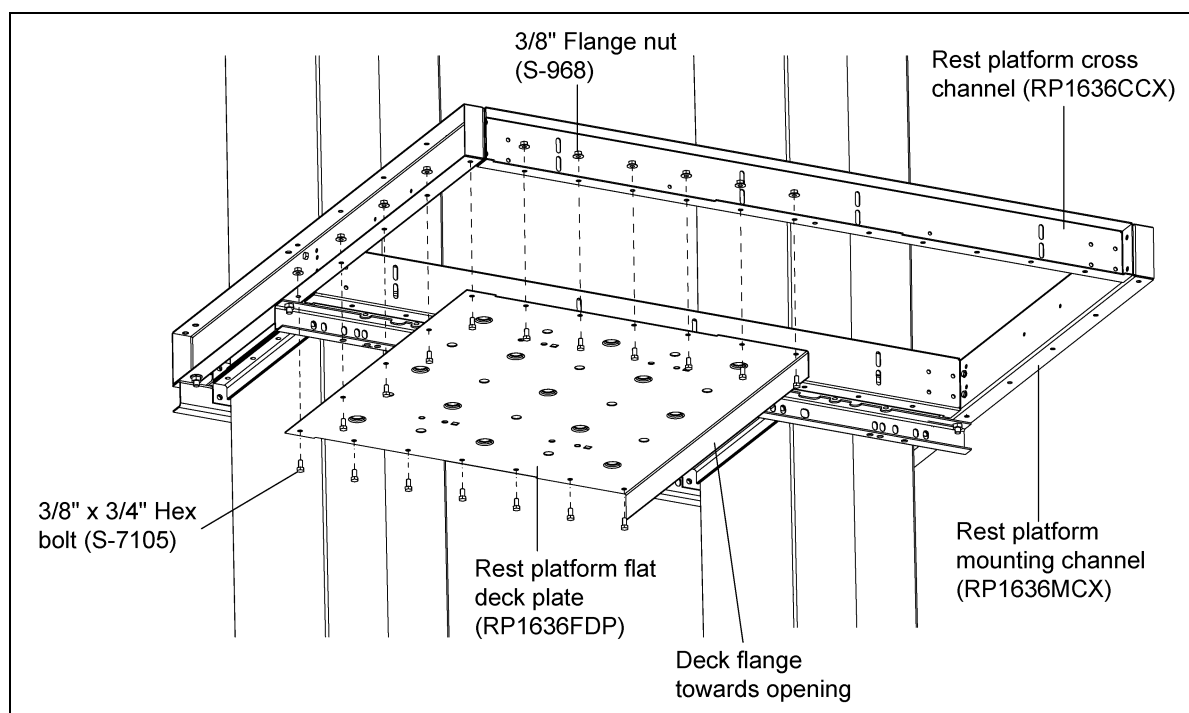

Figure 6L Deck Plate
2. Attach rest platform deck to the bottom of the rest platform mounting channels and rest platform cross channels, using 3/8" x 3/4" hex bolts. Bolt heads should be installed against the deck plate. (See Figure 6L.) **NOTE:** The deck plate can be mounted on either the right or left side, but the flange must be mounted towards the opening.